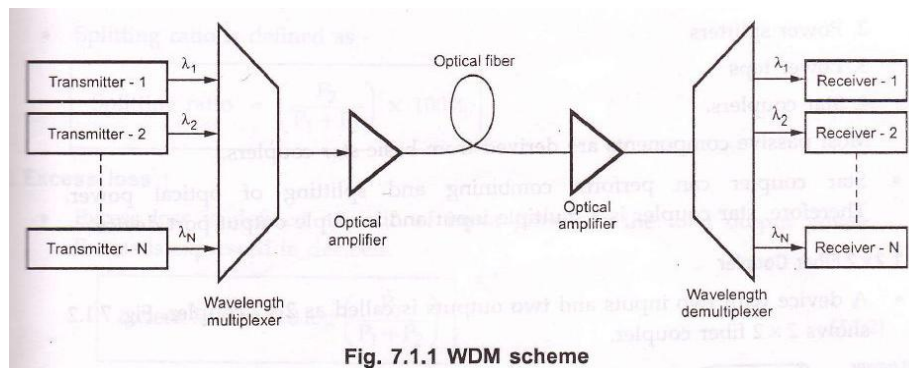

Fig. 7.1.1 WDM scheme
- Each input is generated by a separate optical source with a unique wavelength. An optical multiplexer couples light from individual sources to the transmitting fiber. At the receiving station, an optical demultiplexer is required to separate the different carriers before photodetection of individual signals. Fig. 7.1.1 shows simple WDM scheme.